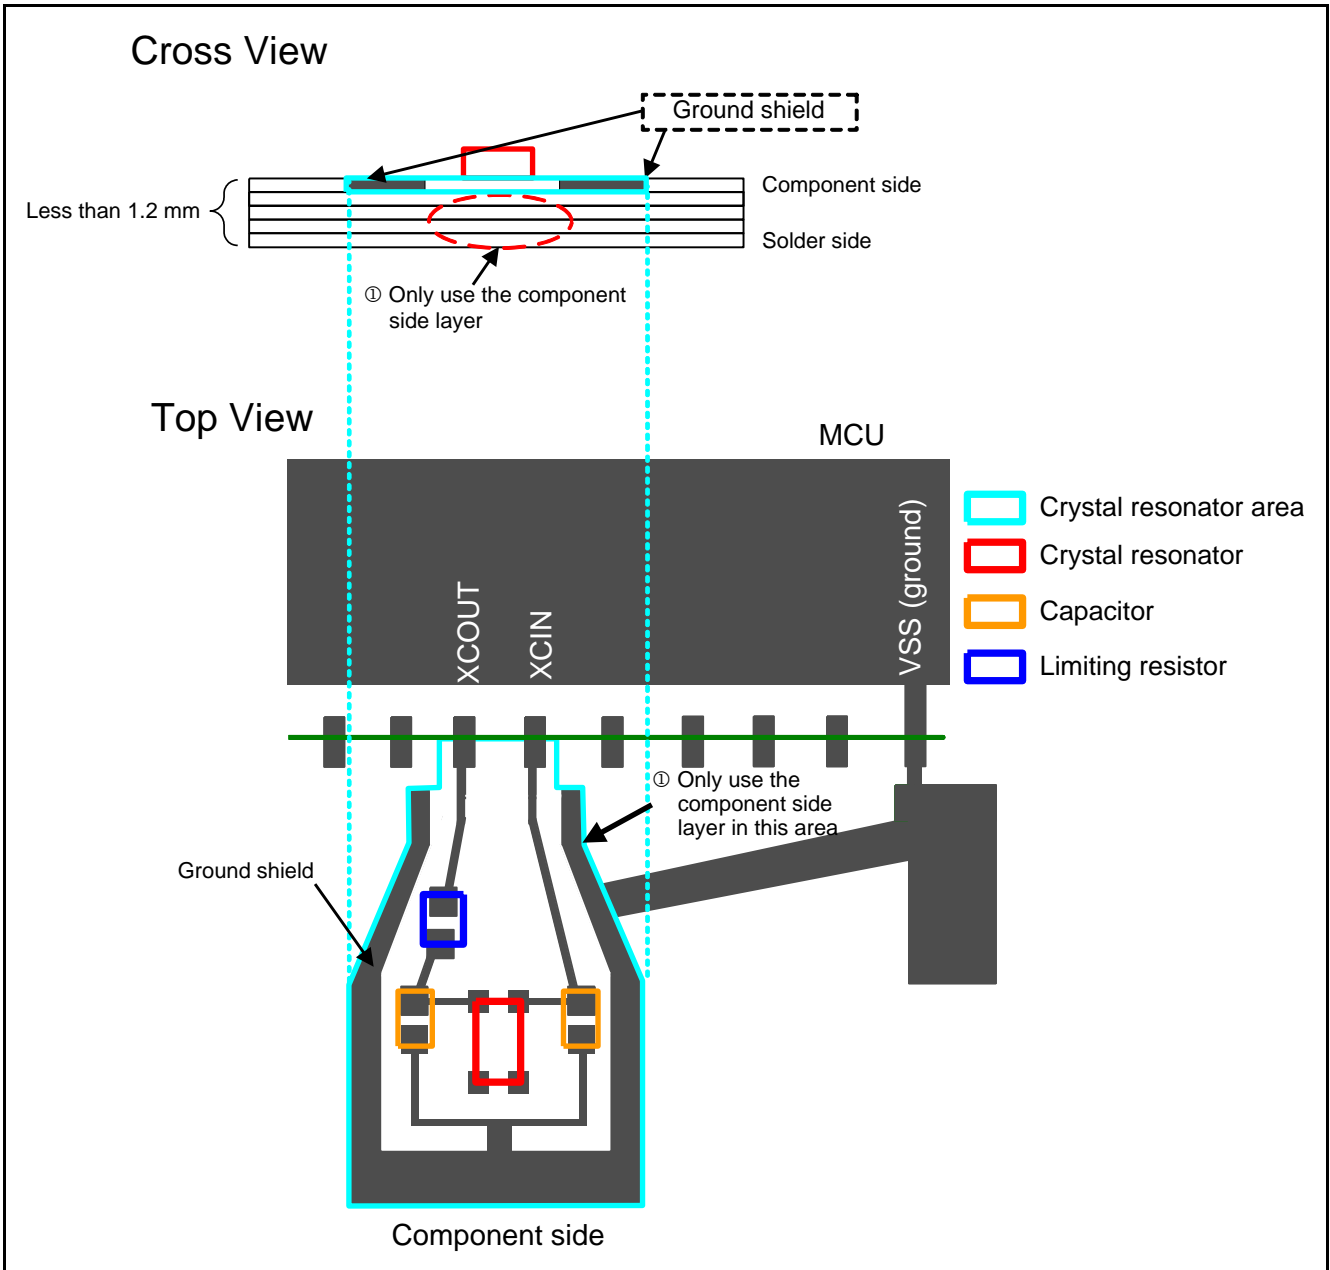
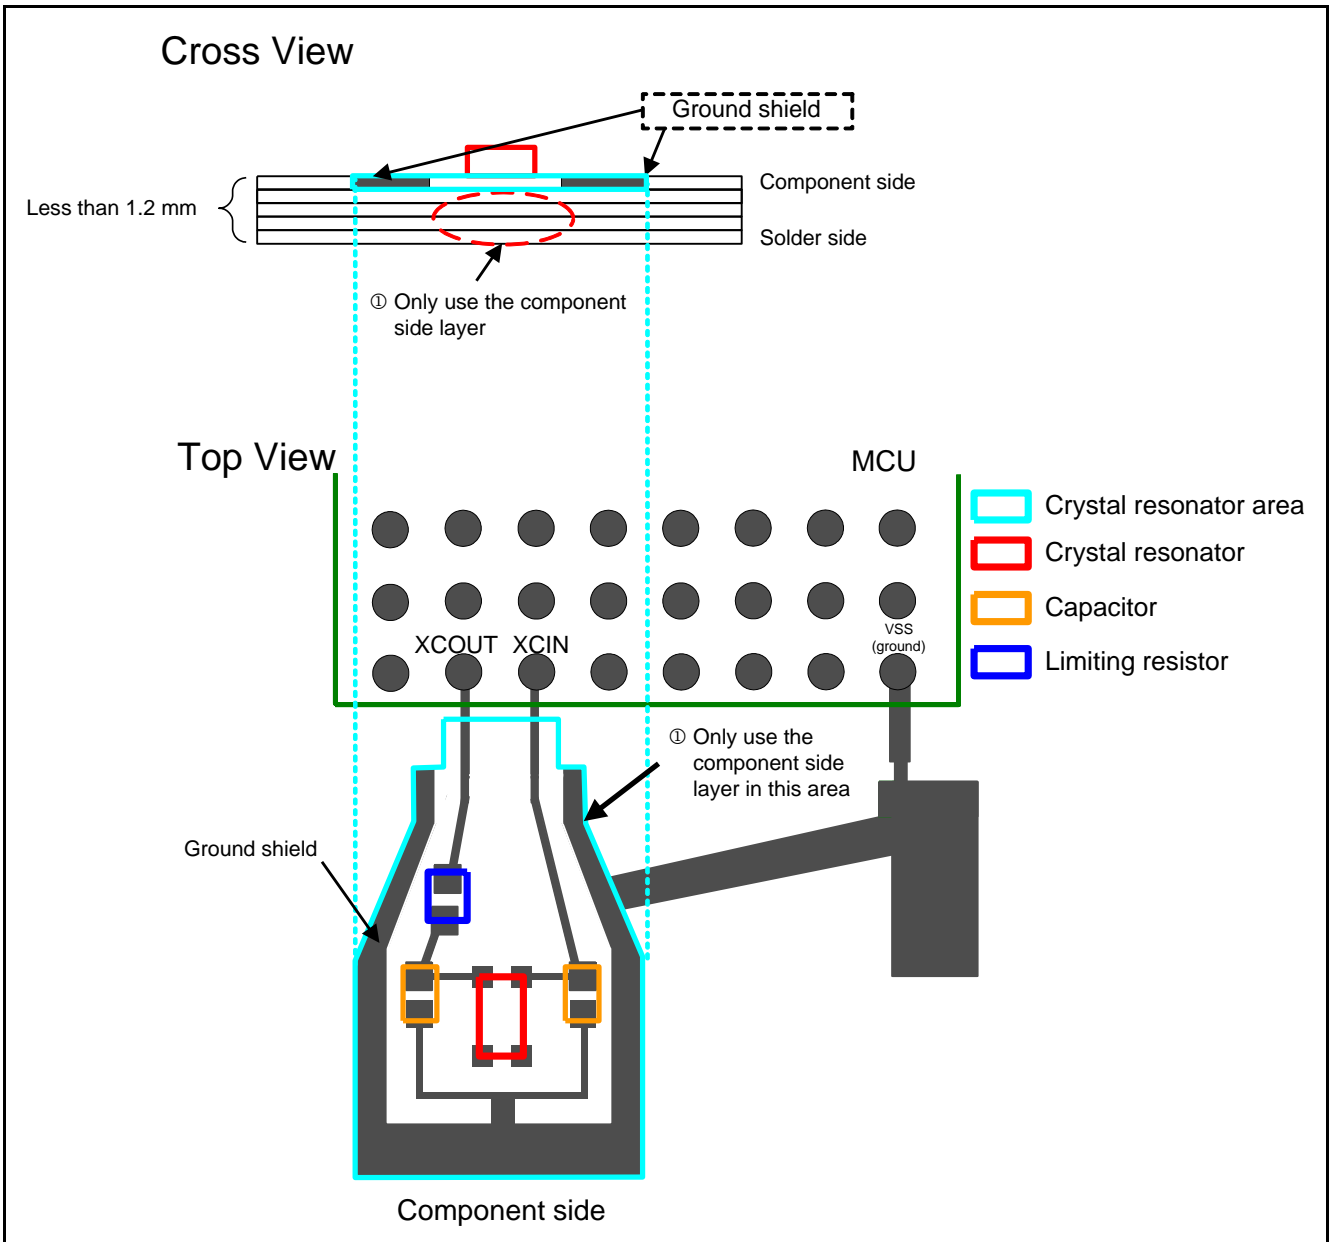

Figure 1.8 Trace Example If a Multilayered Board is Less Than 1.2 mm Thick (When Using the LQFP, LFQFP, and HWQFN Packages)
Figure 1.9 Trace Example If a Multilayered Board is Less Than 1.2 mm Thick (When Using the WFLGA and TFLGA Packages)
- ① describes points when making a multilayered board that is less than 1.2 mm thick. Figure 1.8 and Figure 1.9 show trace examples.
- ① Do not lay out any traces to layers other than the component side for the crystal resonator area. Do not lay out power supply and ground traces in this area. Do not pass signal wires through this area either.